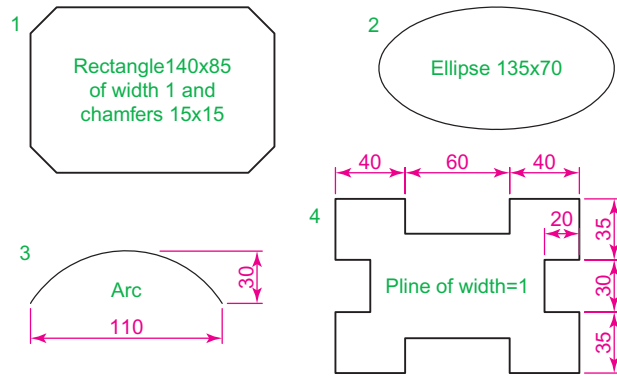

Fig. 5.13 Examples – Offset – outlines
1. Construct the four outlines shown in Fig. 5.13.